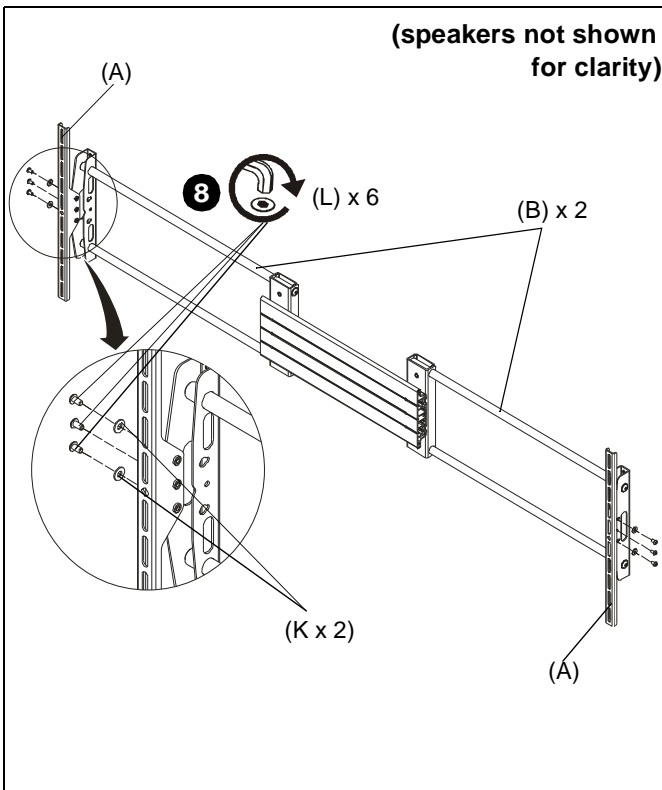

Figure 12
- Use six #10-24 x 3/8" button head cap screws (L) and four #10 washers (K) to secure two speaker brackets (A) to two rail extensions (B). (See Figure 12)